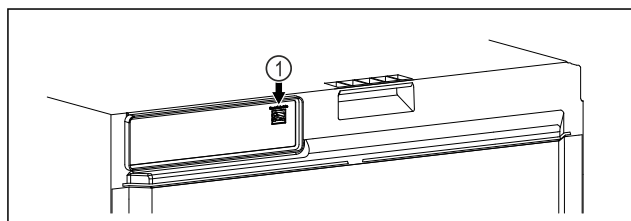

Fig. 110
- ❑ SmartModule Fig. 110 (1) is inserted.